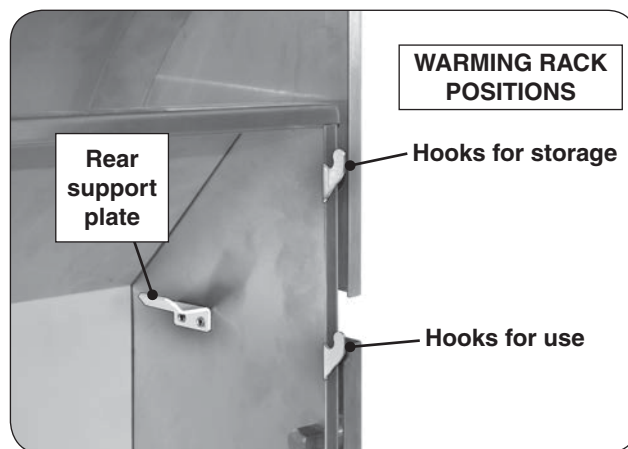
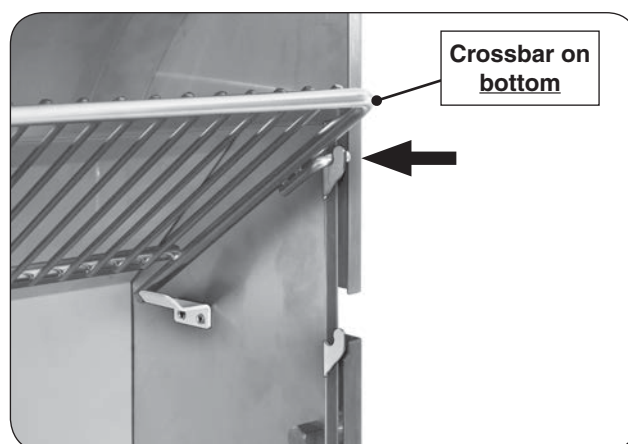

Fig. 21-1 Warming rack hooks
Fig. 21-3 Place warming rack in storage position
1. Locate the warming rack hooks and rear supports found on the upper portion of the grill oven (see Fig. 21-1).
Use the top hooks for storage (see Fig. 21-1 and Fig. 21-3).